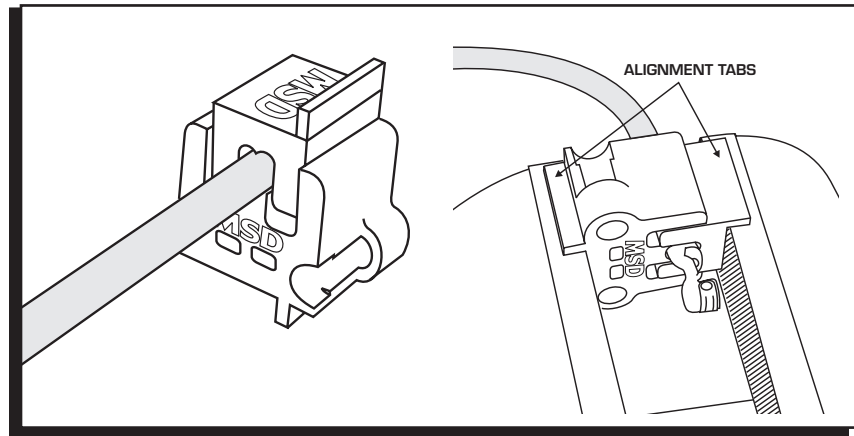

Figure 9 Crimping the Terminal.
4. Slide the other part of the Mini-Stripper-Crimper over the wire terminal and lightly press them together (Figure 9).
5. Put the assembly into a vise making sure the alignment tabs are on the outside edge of the vise jaws (Figure 9).